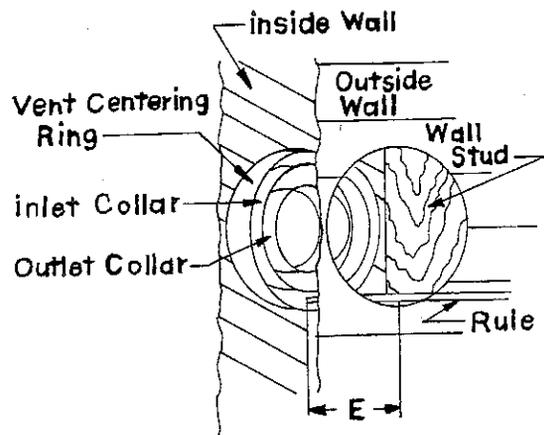

FIG. 5
2. From outside of building, insert a rule into vent hole you have cut in wall until rule touches furnace back (Fig. 5).
3. Determine length "E" (distance from furnace back to outside finish wall), (Fig. 5).